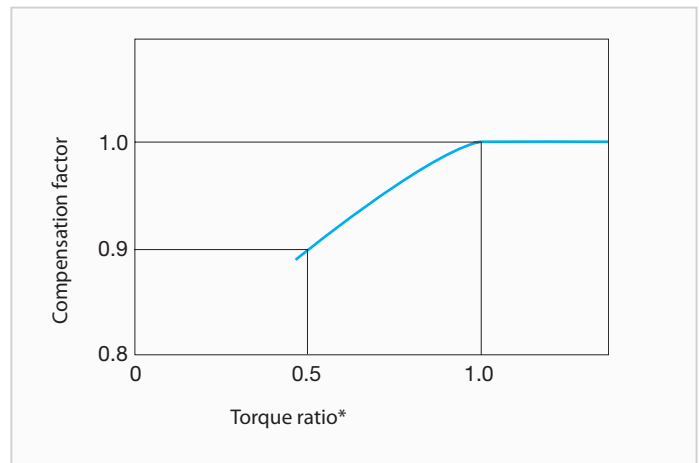

Fig. A4 Compensation curve for efficiency
1. The efficiency changes if the load torque does not match the nominal torque. Check the compensation factor in the diagram Fig. A4.
2. When the torque ratio is over 1.0, the compensation factor for efficiency is 1.0 (diagram Fig. A4).